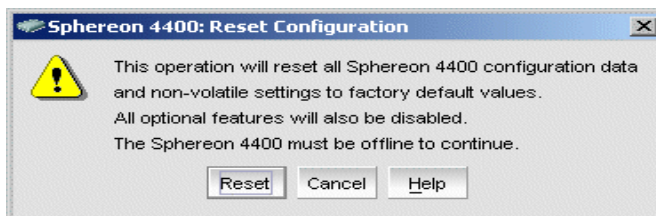

Figure 4-20 Reset Configuration Dialog Box
3. Select *Reset Configuration* from the *Maintenance* menu (*Maintenance > Reset Configuration*). The *Reset Configuration* dialog box appears (Figure 4-20).